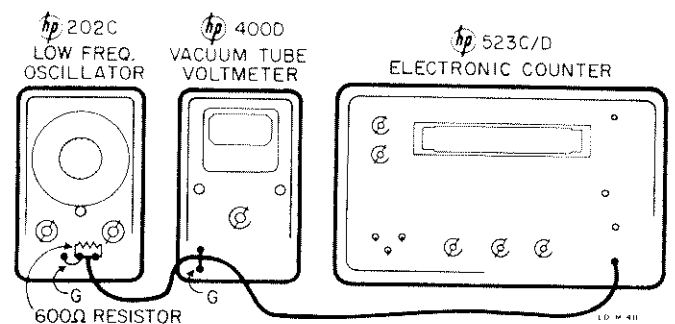

Figure 4-2. Calibration Test Setup
- 1) Connect the 202C to an ac voltmeter and a 523D Electronic Counter as shown in figure 4-2. Substitute a 403A Transistor Voltmeter for the 400D/H/L in figure 4-2.
- b. Connect the 202C to a 400D/H/L AC Voltmeter and a frequency measuring device (counter or frequency standard) as shown in figures 4-2 or 4-3.
- a. Switch 200CD RANGE to 1K. Connect the equipment as shown in figures 4-2 or 4-3.